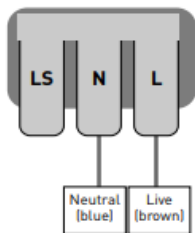
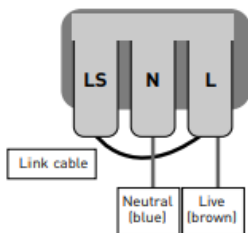
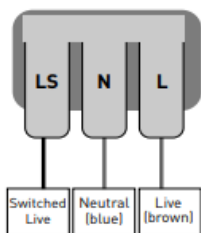

Fig. 3
Fig. 4
Fig. 5
- Wire for non-maintained operation (Fig. 3), maintained operation (Fig. 4) or switched maintained operation (Fig. 5) as required. Remove the link between LS and L if not required